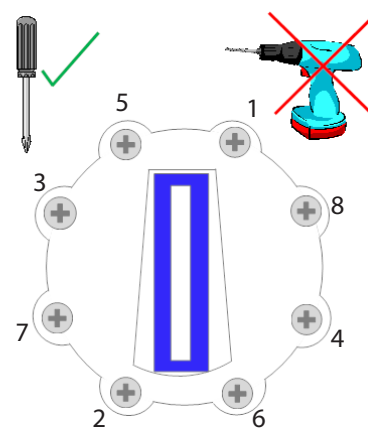

Fig 2.6
8. Using a hand Phillips-head screwdriver, slowly tighten the screws in a diagonal pattern, per the diagonal sequence shown in Fig.2.6. Do not fully tighten one screw before proceeding to the next, i.e., pull them down slowly multiple times to avoid stressing and cracking the lid. Screws should be tightened to a final torque of 25 in./lbs. or 2.8 Nm. Disclaimer: Under no circumstances should the screws in the FlowVis lid assembly or sensor be tightened with an electric screwdriver in the 'drill' setting. This can result in a cracked lid or sensor and will void the product warranty.